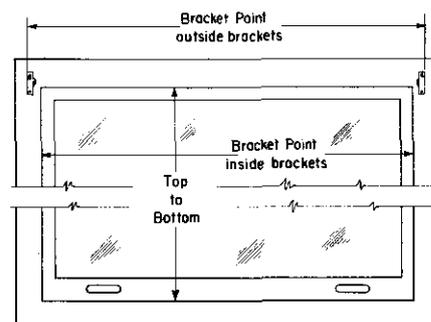

Fig. 1
3.01 When ordering single hung window shades for either new installations or replacement purposes the length and width dimensions as indicated in Fig. 1 are given. In addition, orders should specify the desired color and whether inside or outside mounting brackets are applicable.